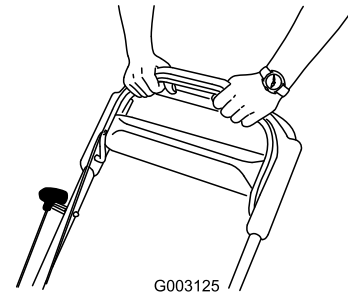

Figure 25
3. Hold the blade control bar against the handle (Figure 25).